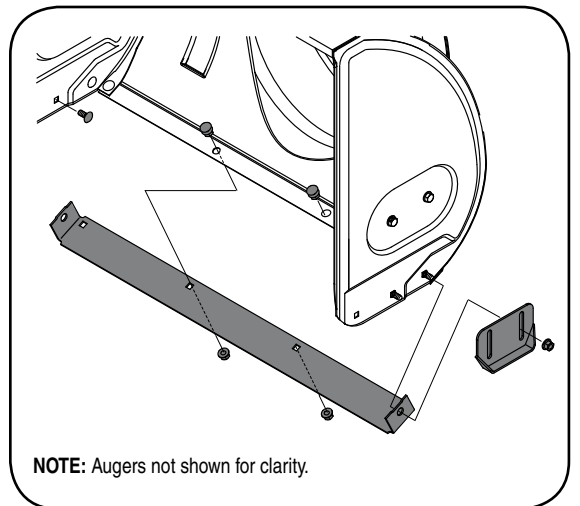

Figure 6-3
2. Reassemble new skid shoes with the four carriage bolts (two on each side) and hex flange nuts, Figure 6-3.